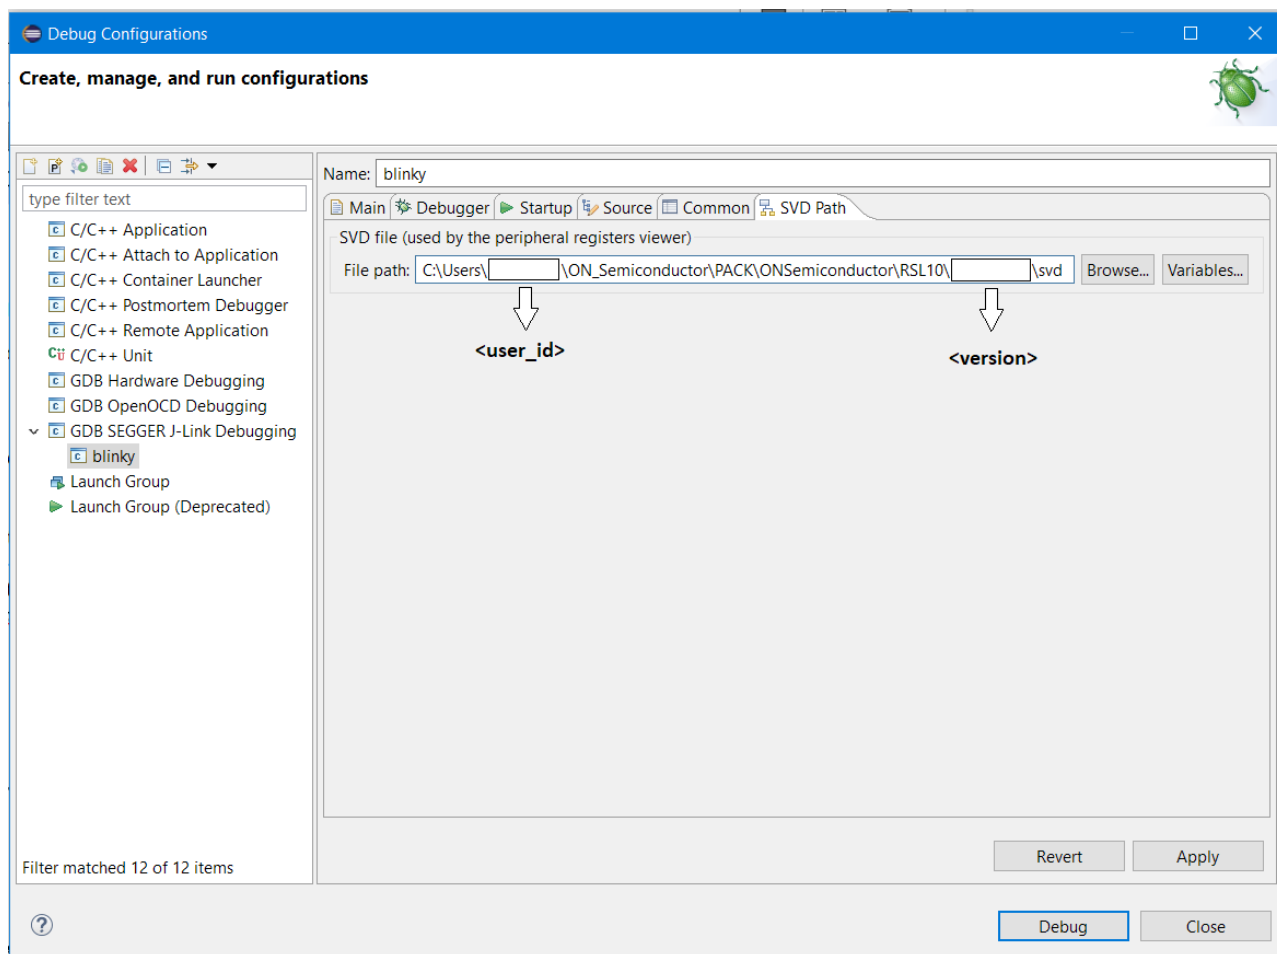

Figure 12. SVD Path Tab Debug Perspective
2. Change to the **SVD Path** tab, and set the path to the *rs10.svd* file as `C:\Users\<username>\AppData\Local\Arm\Packs\ON Semiconductor\RSL10\<version>\svd\rs10.svd` (see Figure 12). Click **Debug**.